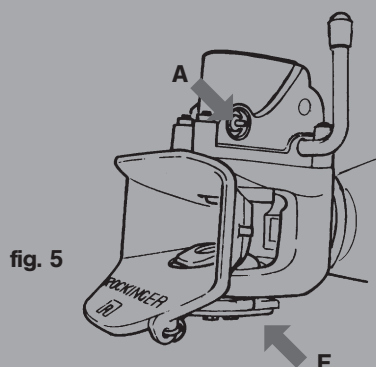

fig. 5
- Grease the automatic unit upon opened coupling over point of lubrication **A** (see fig. 5). The lubrication can be also connected to the central lubrication system of the vehicle.